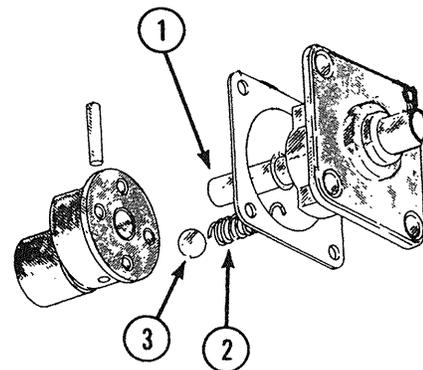

Fig. 5-3
- A. Install shifter shaft in plate (1, Fig. 5-3).
- B. Install springs in plate (2, Fig. 5-3).
- C. Place balls on springs (3, Fig. 5-3).